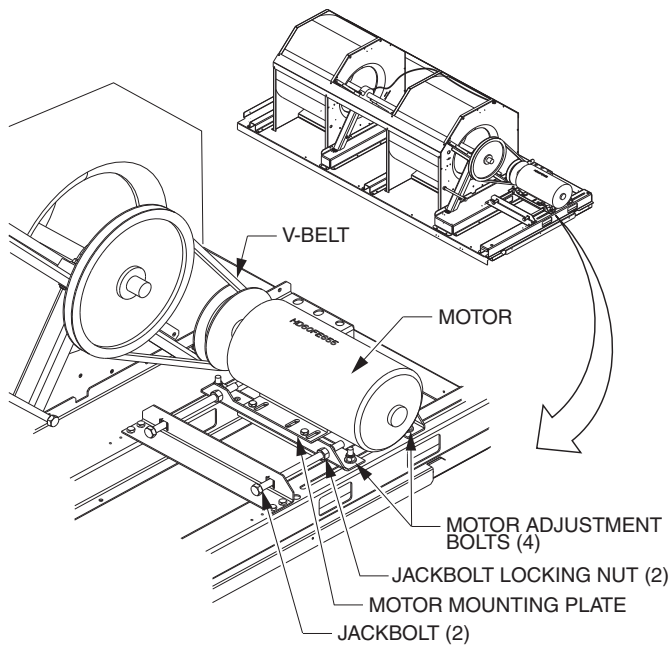

Fig. 5 — Belt Drive Motor Mounting
Use the following steps to adjust the V-belt tension. See Fig. 5.
2. Loosen (turn counterclockwise) the motor mounting plate front bolts and rear bolts. See Fig. 5.
9. Check the tension after a few hours of runtime and re-adjust as required. See Fig. 5.